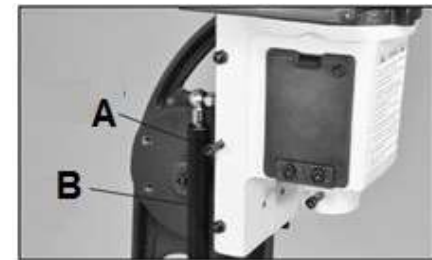

Fig 2
1. Loosen the locking hex head Screw (A, Part #64) that is located on the left side of the mortising head, next to the Gas Spring (B, part #57). FIG. 2.